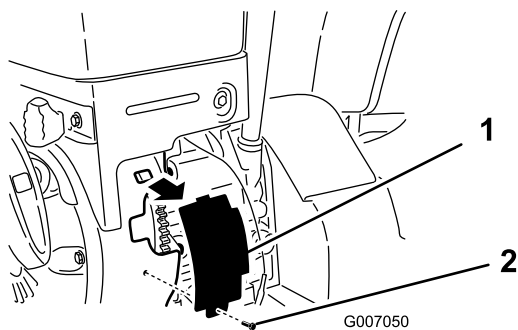

Figure 1
- Remove the hex-head bolt that holds the cover in place (Figure 1).